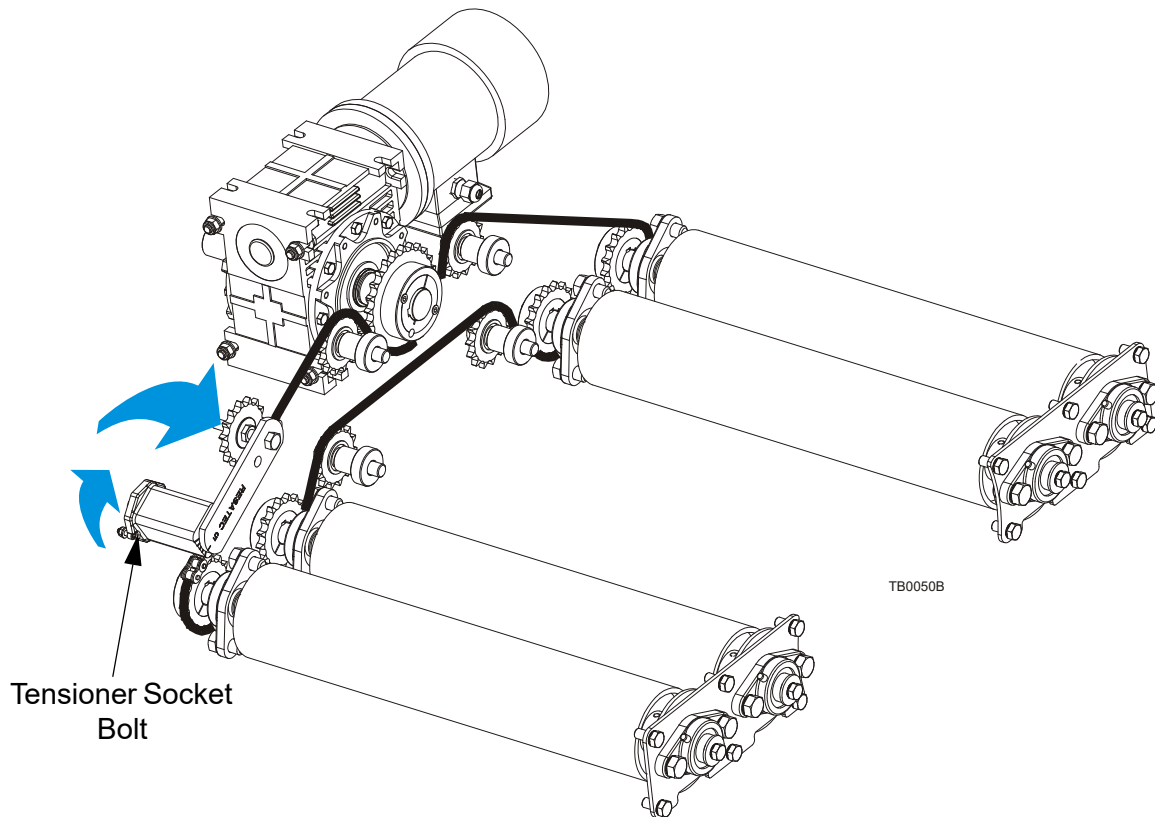

FIG. 6-5
**See Figure 6-5.** To tension the drive chains, unbolt and open the gearbox housing cover.